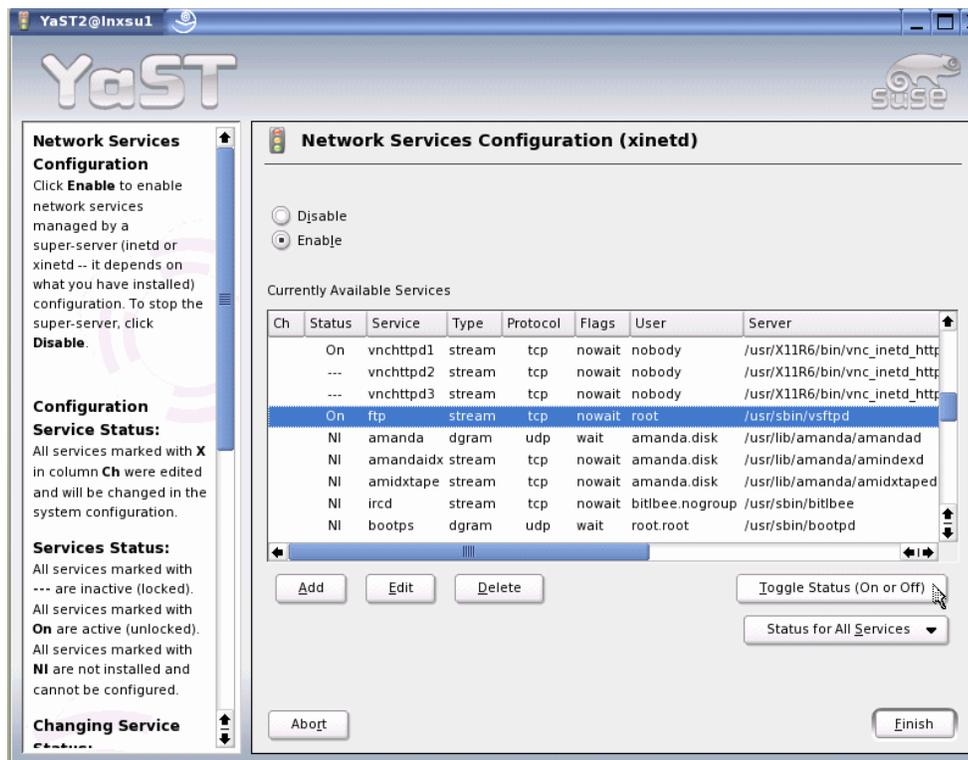

Figure 3-8 YaST panel to start vsftpd daemon
- We started the vsftpd daemon using YaST. From the main panel we selected **Network Services** → **Network Services (inetd)** → **Toggle Status ON** for vsftpd, as shown in Figure 3-8.